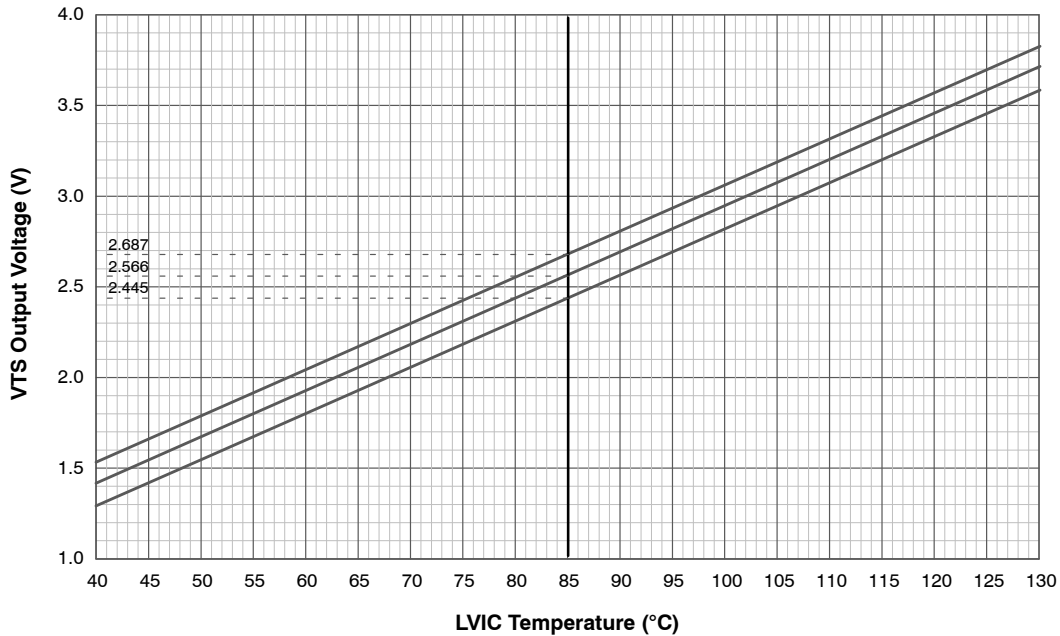
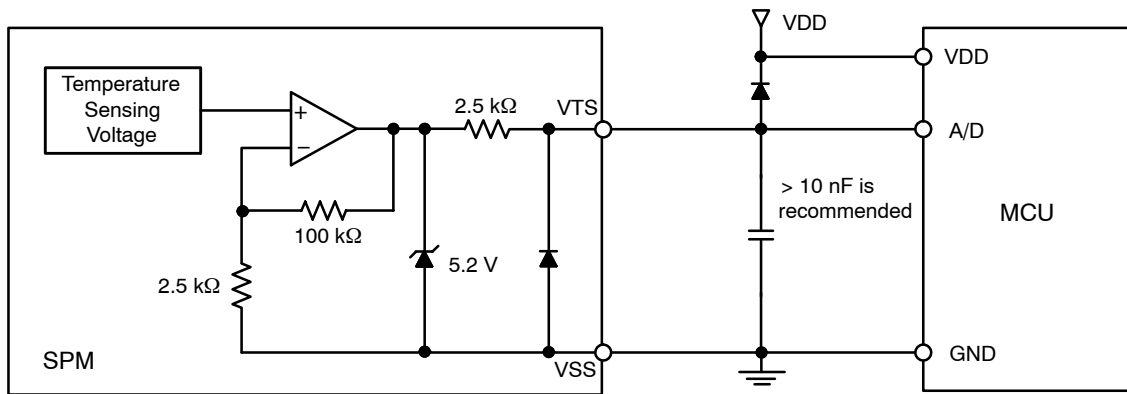

Figure 6. Temperature Profile of VTS
Figure 7. Internal Block Diagram and Interface Circuit of VTS
| VTS      | Voltage Output for LVIC Temperature Sensing Unit | VDD(L) = 15 V, TLVIC = 25°CSee Figure 6 and 7 (Note 8) | 0.909 | 1.030 | 1.151 | V  |
- TLVIC is the temperature of LVIC itself. VTS is only for sensing temperature of LVIC and cannot shutdown IGBTs automatically. The relationship between VTS voltage output and LVIC temperature is described in Figure 6. It is recommended to add a ceramic capacitor of 10 nF or more between VTS and VSS (Signal Ground) to make the VTS more stable as described in Figure 7. Refer to the application note for this products about usage of VTS.